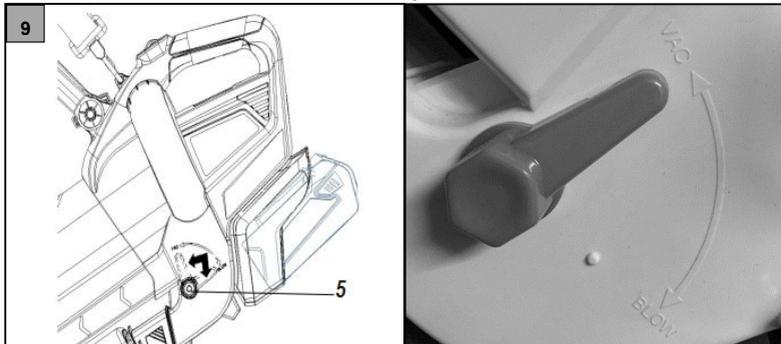

Fig. 9
**Selecting the mode of operation****Suctioning (Fig. 9)**
**Blowing (Fig. 9) .**